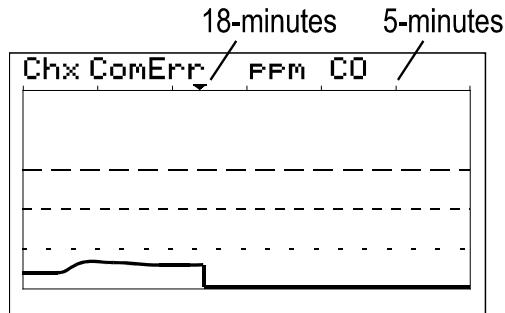

Figure 6.4
- **Communications Error** – Each channel's 30-minute trend screens (Figure 6.4) are very useful for diagnosing wireless problems since it indicates amount of time since the most recent transmission was received. The down arrow on top of the trend screen resets to far right each time a transmission is received by that channel. When not in alarm, GDX-350 RFs transmit each 5-minutes so the arrow should never progress past the 5-minute interval. The GDA-400 activates the channel's FAULT alarm and indicates ComErr if no transmission has been received in 18 consecutive minutes.